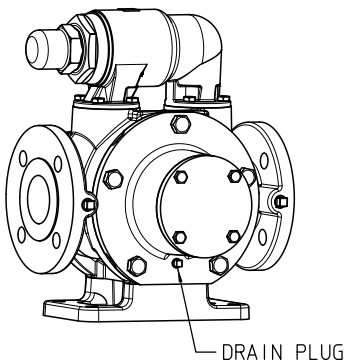

FIGURE 4
2. Relieve pressure and drain fluid by removing the drain plug as shown in **figure 4**.